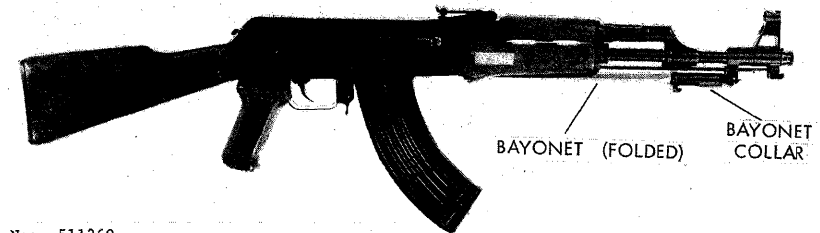
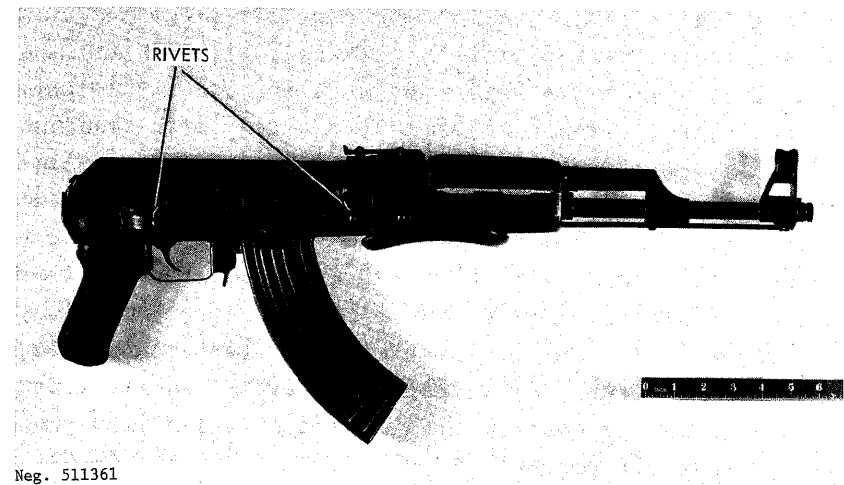

Figure 61. Late model PRC Type 56 assault rifle.
Figure 62. PRC Type 56-1 assault rifle.
spike bayonet (fig 61). The PRC Type 56-1 assault rifle (fig 62) is similar to the Soviet folding stock model but has prominent rivets in the stock arms. The Polish PMK is similar to the Soviet AK-47, but the PMK-DGN-60 (fig 63), for launching grenades, has a 20-mm diameter LON-1 grenade launcher threaded onto the
d. The bayonet on the late model PRC Type 56 assault rifle is swung to the desired position by pressing the collar (fig 61) toward the point of the blade and pivoting the blade to the desired position.